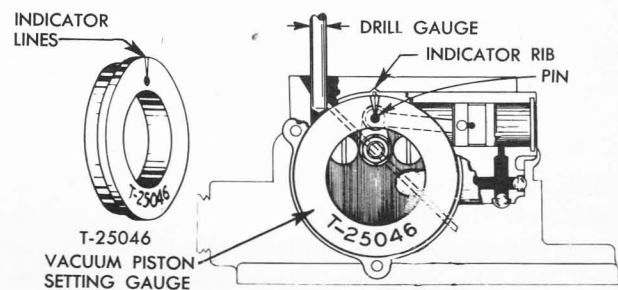

Figure 3-75—Setting Vacuum Piston with Gauge T-25046
6. Place piston setting Gauge T-25046 on choke housing with a small hole fitting over the pin of the choke lever. There are two indicator lines on the face of the gauge. The gauge should be positioned so that the indicator rib on top of the choke housing is centered between the indicator lines. See figure 3-75.